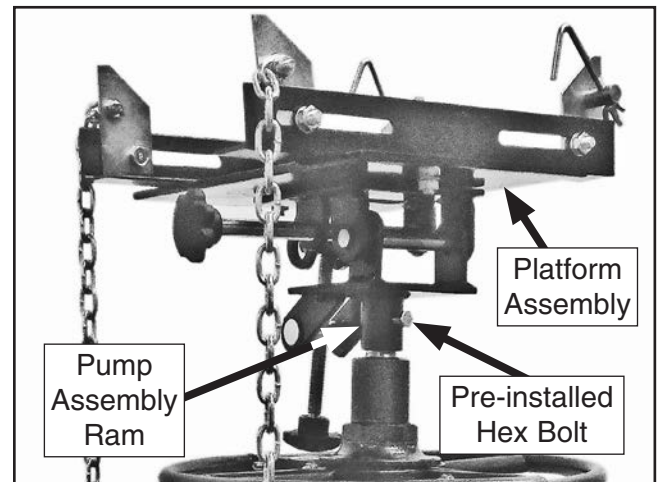

Figure 6. Platform assembly mounted to pump assembly ram (chain mount plates, chains, and anchor bolt shown attached).
4. Set platform assembly on top of pump assembly ram and tighten pre-installed hex bolt (see **Figure 6**).